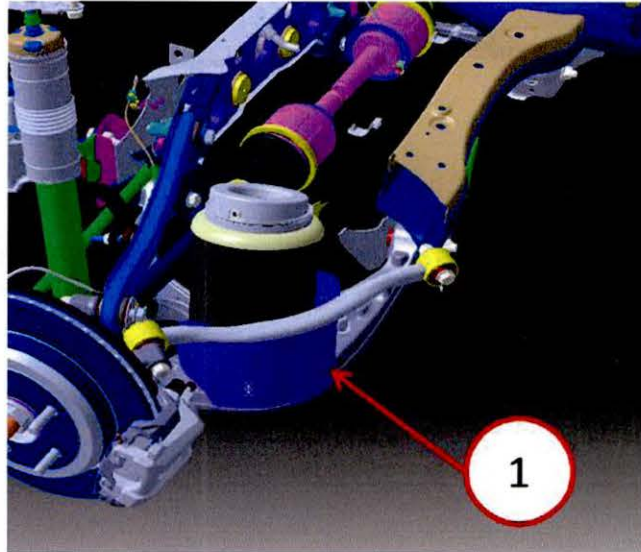
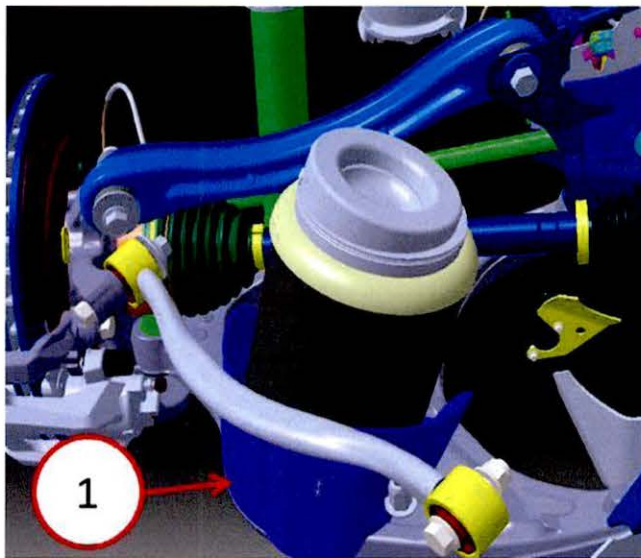

Fig. 3 Air Spring
Fig. 4 Air Spring
12. Position the air spring shield into the lower control arm spring seat by lining up the piloting feature on the shield with the control arm (Fig. 3) and (Fig. 4).
22. Position the right air spring shield into the lower control arm spring seat by lining up the piloting feature on the shield with the control arm (Fig. 3) and (Fig. 4).